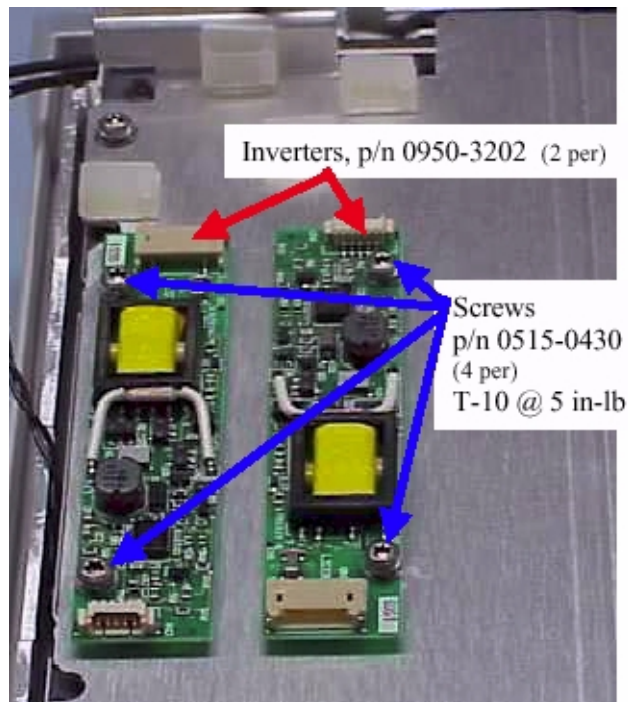

Figure 3-49. Attaching the inverters to the new assembly
- 3 Remove the inverter cover and install the inverter assemblies on the new inverter cover (pn supplied in the kit (86140-60116)). See Figure 3-49.